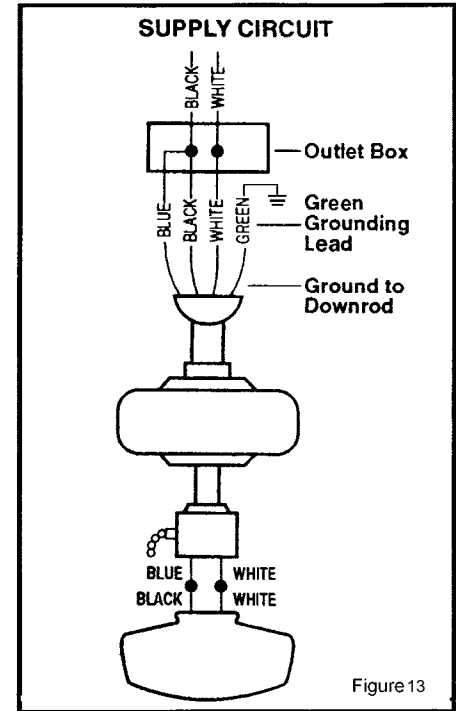

Figure 13
**Step 2** Connect the fan light supply (blue) wire and the fan supply (black) wire to the black household supply wire as shown in Figure 13.